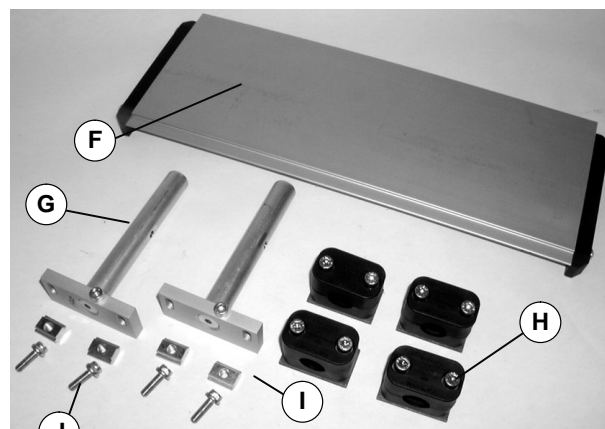

Figure 4
1. Typical components (Figure 4)